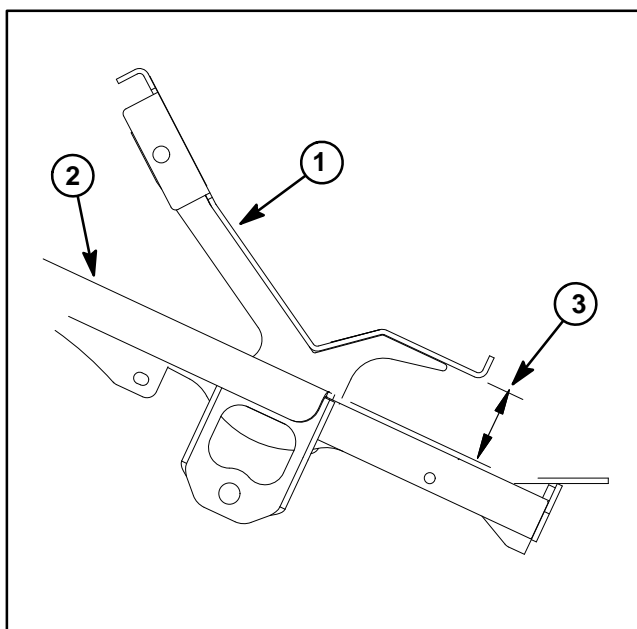

Figure 65
6. The rod end on the traction rod assembly is used to adjust the orientation of the traction pedal. With the traction pedal in the neutral position (shown in Figure 65), the standard height from the front platform (footrest) to the rear of the pedal is **1.760" to 1.890" (44.7 to 48.0 mm)**. If your Groundsmaster is equipped with an operator cab which has a layer of padding on the footrest, the standard height is **1.340" to 1.460" (34.3 to 37.0 mm)**. If the pedal height is changed, the pedal may not be capable of reaching the full forward or reverse direction.